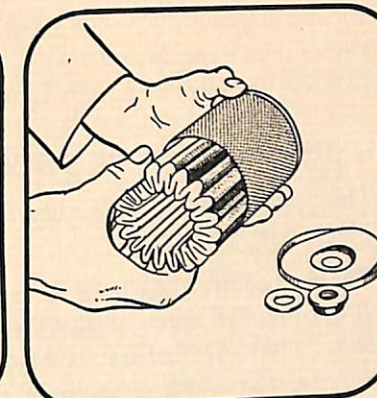

FIG. 69.
- (e) Remove element from cage (see fig. 69).